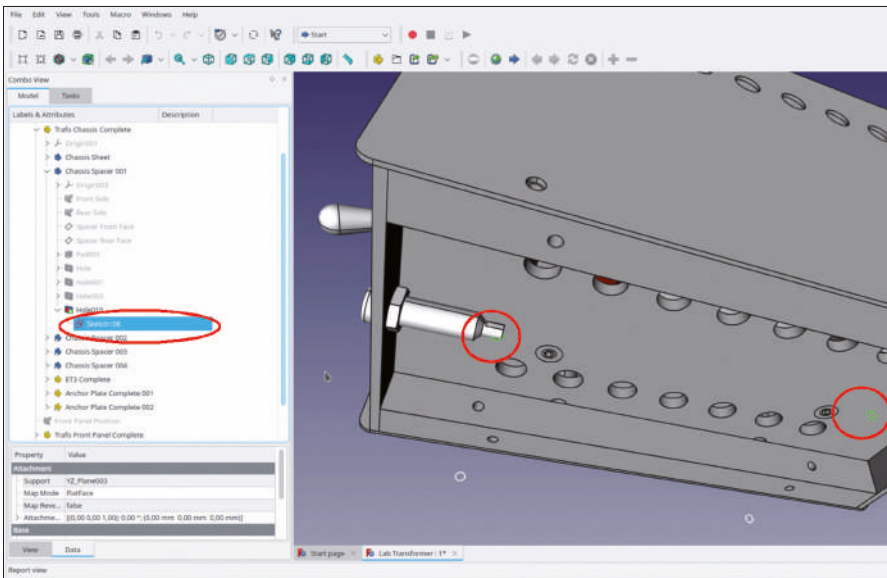

Figure 9-142
1. In 'Trafo Chassis Complete', expand the body 'Chassis Spacer 001' and display the sketch in the tip (Hole010) with the SPACE key (Figure 9-142).